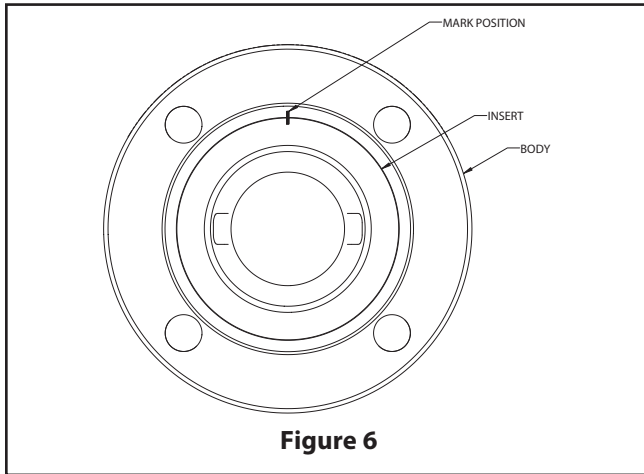

Figure 6
10. Place the stud nuts (18) on the studs (14).
11. While pressing the stem (5) outward from inside the body, tighten stud nuts (18) to the torque shown in (**Table 1**). Apply torque evenly, alternating between the two nuts so that the compression plate will be parallel with the valve body. Rotate the stem gently to assure proper seating.
12. Make sure there is no dirt and grit in the insert (2) threads. Apply a lubricant compatible with the flowing media to the threads and screw the insert (2) into the body (1) by hand until it is fully seated. Mark the position as shown in **(Figure 6)**. Counting the number of turns, remove the insert.